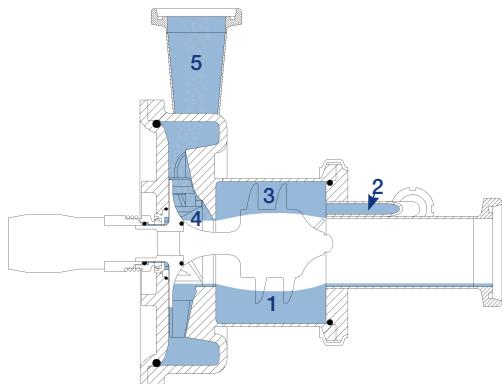

Fig. 4.1.4s Alfa Laval LKH Prime Pump
Its principal of operation is that as the Alfa Laval LKH Prime pump starts up, the centrifugal force generated from the rotation of the airscrew and the initial priming liquid causes the formation of a liquid ring in the pump head canister (1). This also fills the recirculation pipe (2), thereby achieving the initial prime (Fig. 4.1.4s).